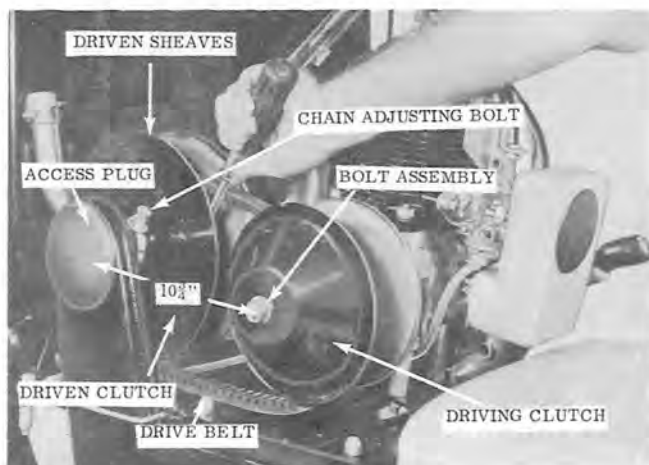

Figure 13
Remove the belt guard and use a screw driver or similar tool to pry driven sheaves apart as shown in Figure 13. Pull the drive
belt down into the driven sheave halves. This will make enough slack in the drive belt to easily pull it up over the driving clutch. Remove other end from driven clutch. Replace in reverse order. After replacing the belt check the belt tension. There should be $10\frac{3}{4}$ inches between the center of the driving clutch and the driven clutch (See Figure 13). If adjustment is necessary, loosen nuts securing engine and slide it backward. The engine can be moved backwards a total of $\frac{3}{8}$ inches.
1. Remove the bolt assembly from the outside of the bell clutch housing (See Figure 13).
2. Remove rubber access plug (See Figure 13).
5. Remove chain adjusting bolt assembly (See Figure 13) and remove driven clutch. The large sprocket at the bottom of the chain housing will have to be pulled to the top access hole and pried out with a screw driver or similar tool.